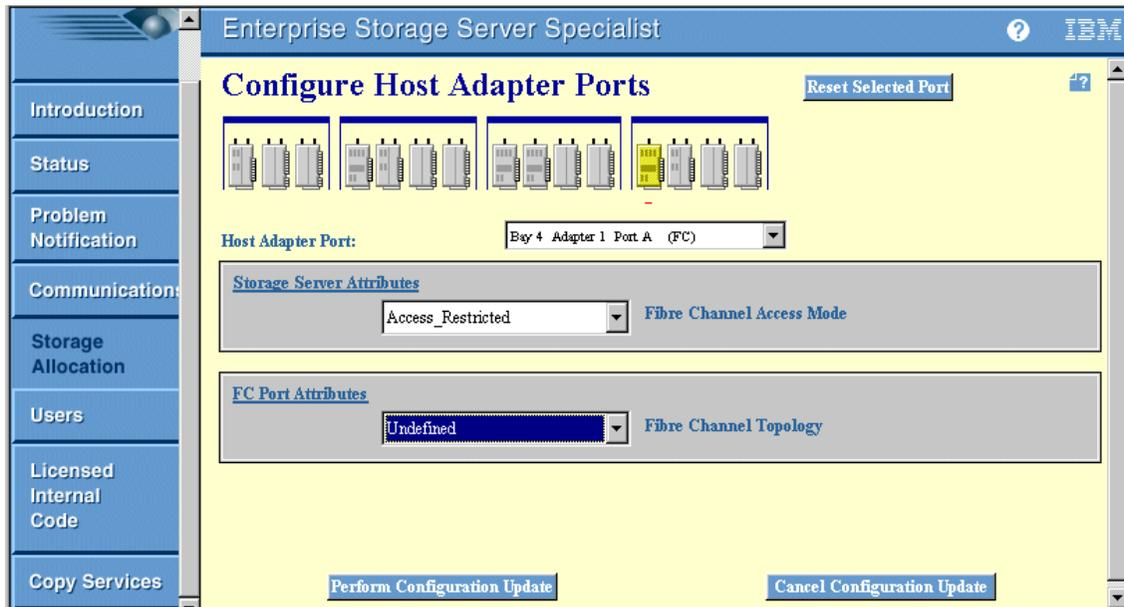

Figure 15. Putting the card in service mode
6. Under FC Port Attributes, select **Undefined** (Figure 15). This puts the card in service mode, before allowing you to make any changes.